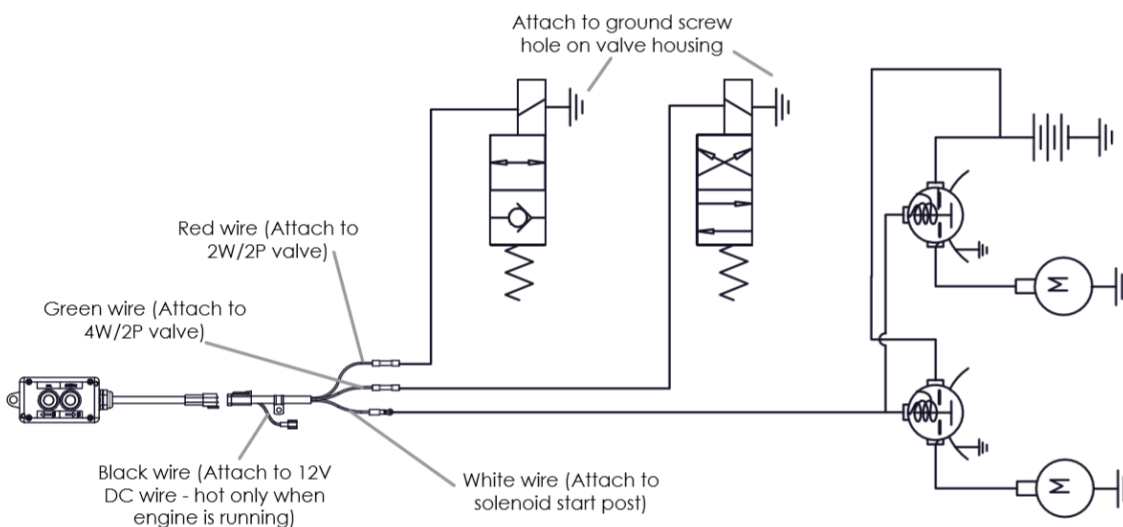

Figure 5: Wiring Map
3. Locate the short black wire located on the back side of the Deutsch connector of the push-button control. Connect the black wire to a 12 VDC power source in the fuse panel that is hot only when the engine is running (**Figure 5**).